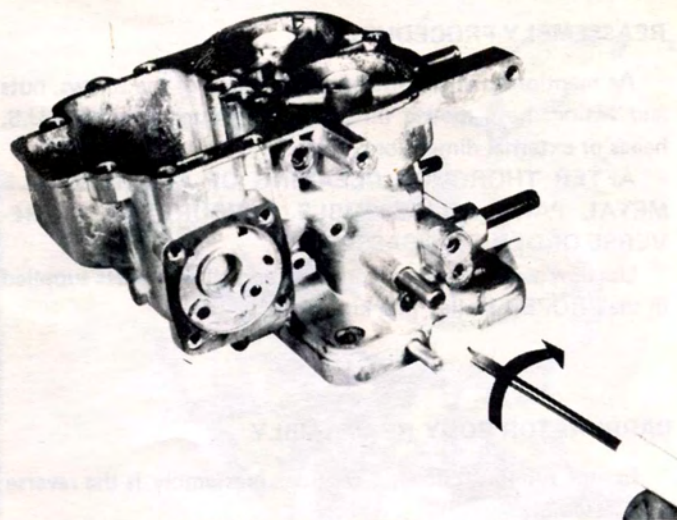

Figure 23 — Idle limiter cap and pin.
6. Turn idle limiter cap in to pin stop. (Fig. 23) Remove idle limiter cap. Count and record the number of turns needed to lightly seat idle mixture screw. Remove idle limiter screw and spring.